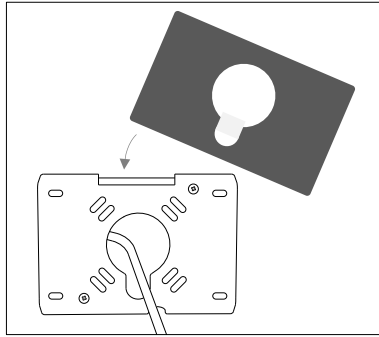

Figure 5
5. To achieve a water-tight seal, attach the luminaire gasket to the luminaire housing (see Figure 5). For additional sealant, apply waterproof silicon to the gasket prior to attachment.